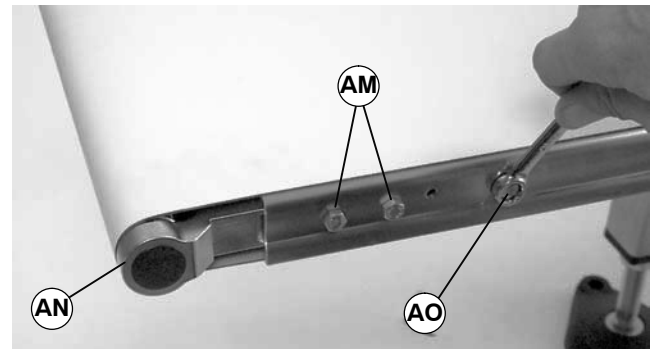

Figure 19
5. Retract idler spindle assembly (AN of Figure 19) by pushing in on it or by turning M6 hex head pinion screw (AO) clockwise.
5. Retract idler spindle assembly (AN of Figure 19) by pushing in on it or by turning M6 x 25 mm hex head pinion screw (AO of Figures 19 and 20) clockwise.